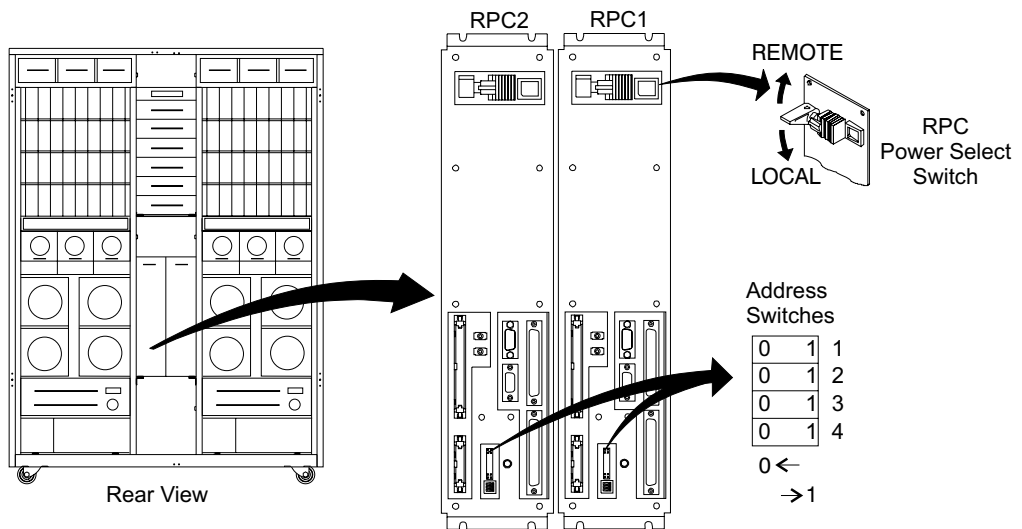

Figure 31. 2105 Model Exx/Fxx RPC Local/Remote Switch Location (S008612m)
1. At the 2105 Model Exx/Fxx, are the Local /Remote power switches on both RPC cards [Figure 31] set to Local mode (down)?